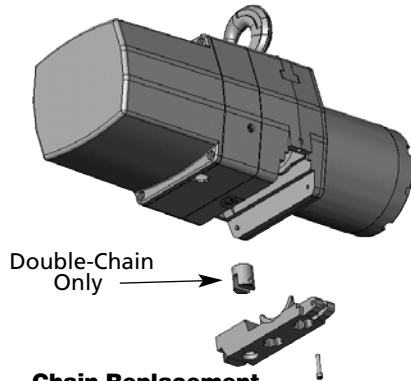

Figure 4 — Chain Replacement Diagram
4. Remove the load block assembly from the old chain. On double-chained hoists detach the chain from the chain support and pull it through the load block assembly (See Figure 4).
Refer to Figure 4.
4. Reinstall the chain stripper (with the chain anchor on double-chained hoists, See Figure 4) observing proper chain alignment and avoiding any twist in the chain.